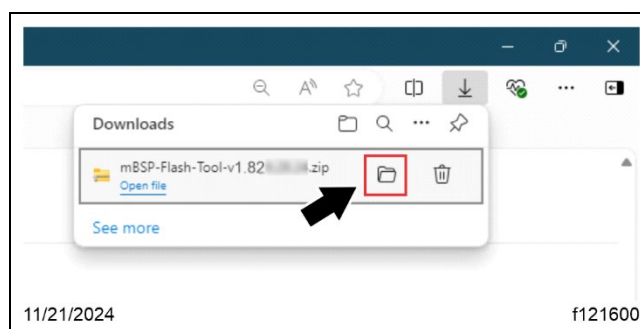

Fig. 24, mBSP Flash Tool Zip File Downloaded
5.3. The zip file is downloaded on your local hard drive and a 'Downloads' panel appears at the top-right corner of the browser. See **Fig. 24**.
5.4. Select the 'Show in folder' button, shown in **Fig. 24**. The location where the zip file is saved opens in File Explorer.